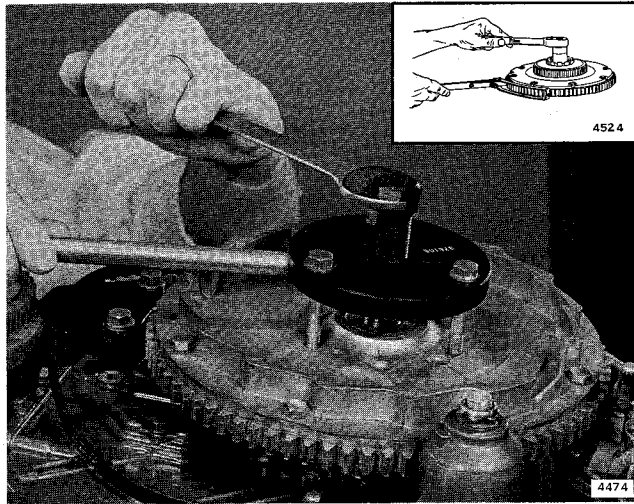

Figure 5-6. Removing Flywheel with Puller
f. Using an appropriate flywheel holding fixture, remove flywheel attaching nut. Remove flywheel, using puller (Special Tool #378103). See Figure 5-6.